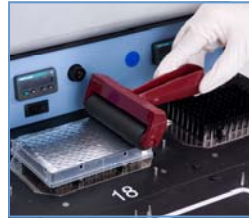

Figure 5. Roll film to ensure a good seal.
2. The instrument will dispense 40 µl of diluted Random Nanomers of Cy-3 to column 1 and Cy-5 to column 2 of the DNA plate and then pause. Seal the plate with PCR Plate Sealer (Figure 5) and place it in position 19 at 95 °C.